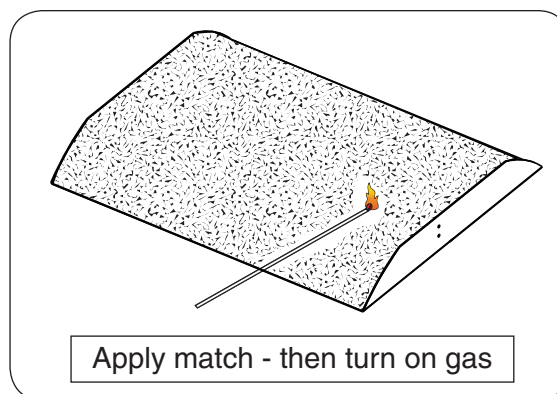

Fig. 14-1
3. Lay a lighted match on the surface of the decorative media near the burner (**do not hold the match in your hand**) or use a lighted long-stem match/long-necked butane lighter (Fig. 14-1).